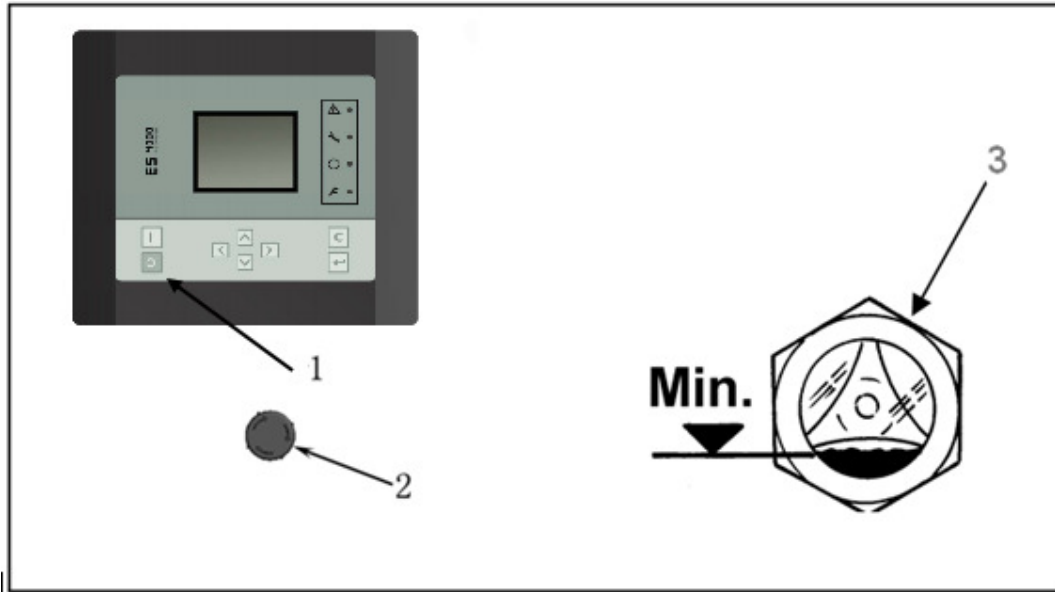

FIG.13
- Press the "STOP" button Ref. 1 FIG. 13
- Press the "EMERGENCY STOP" button Ref. 2 FIG. 13.
- Check the oil level on the indicator Ref. 3 FIG. 13
- Top up to maximum level Ref. 3 FIG. 13, with oil of the same type in the compressor.
- Press the "EMERGENCY STOP" button Ref. 2 FIG. 13
- Press the "STOP" button Ref. 1 FIG. 13.
- Start up the compressor pushing in sequence "I" button and immediately after about 1 second the "0" button Fig. 13 to stop it.